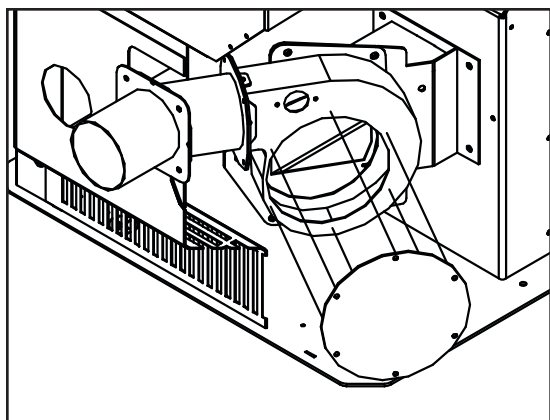

Figure 23: Exterior Blower Kit.
1. Remove the left hand cabinet side by removing the two (2) screws down the front. Loosen the three screws on the back of the cabinet side and remove panel.
2. Loosen the six (6) screws that hold the back grill in place. Lift the back grill off the screws.
3. Disconnect the Exhaust blower wires from the wire harness. Remove the exhaust blower motor from the housing; six (6) screws. Cover hole in housing with cover plate provided (see Figure 23).
5. Install the exhaust blower housing box into the pipe placed through the wall thimble, seal with high temperature silicone. Fasten the box to the wall with (4) four screws, seal edges of box to wall with clear silicone.